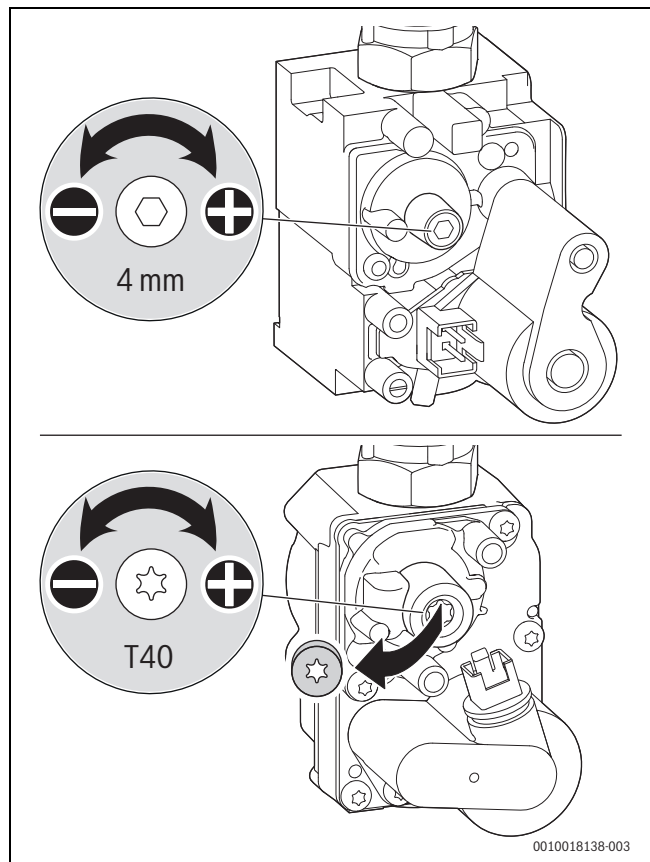

Fig. 106 Setting the CO₂ or O₂ content (above: SIT valve, below: Honeywell valve)
- ▶ Remove the seal from the adjusting screw of the air/gas ratio control valve (only air/gas ratio control valve is shown in the below Fig. 106) and set the CO₂ or O₂ content for minimum rated output.